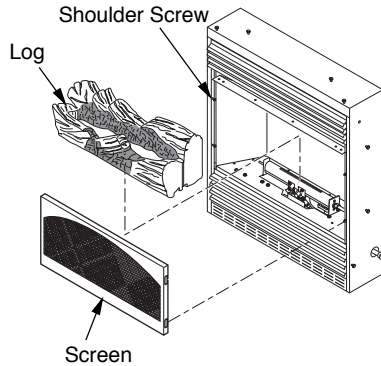

Figure 35 - Installing Log and Screen
1. Remove log packaging material and discard packaging. Gently place log over the burner (see Figure 35). Do not allow log to contact flame. If flame contacts log, soot will be created.